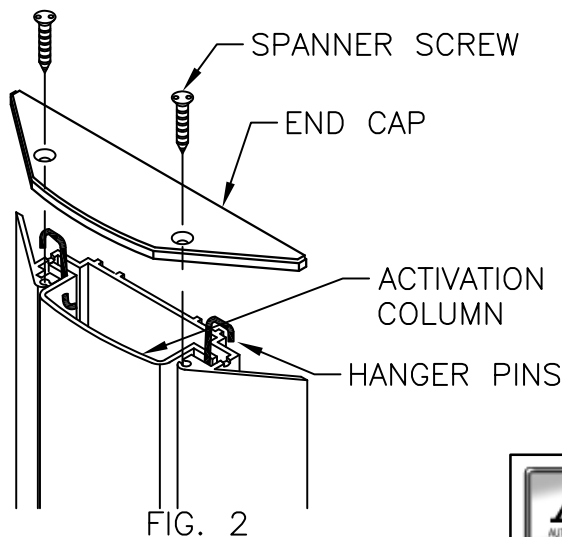

FIG. 2
7. Slide the ACTUATOR back into the SWITCH BASE. Compress the SWITCH SPRING as the ACTUATOR passes the SWITCH. The HANGER PINS should rest in the slots at the top of the SWITCH BASE. SEE FIG. 2.
8. Position the END CAP onto the top of the SWITCH BASE. Attach with the supplied spanner security screws. SEE FIG. 2.